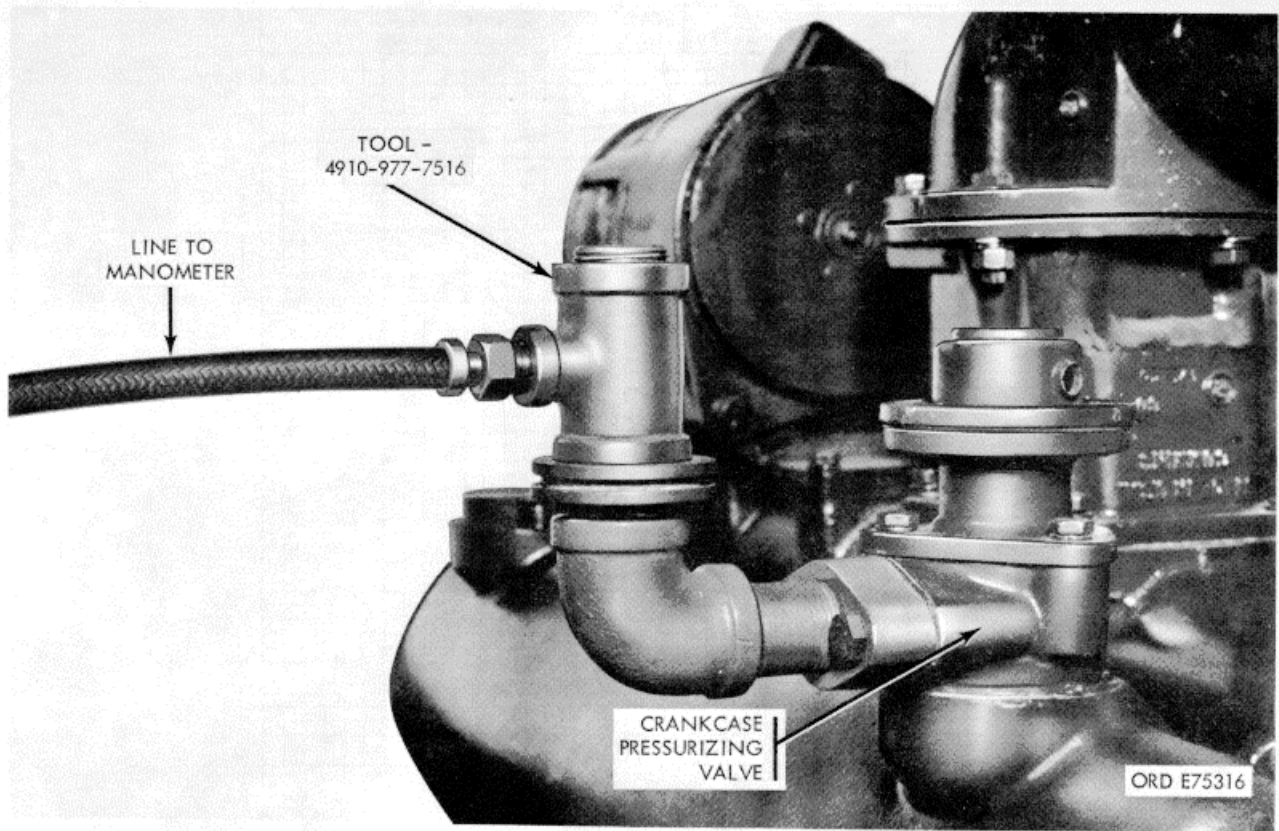

Figure 3-98. Engine blow-by check.
(1) Install right bank rocker housing. Install sealed type oil dipstick.
(2) Install left bank rocker housing. Install sealed type oil dipstick.
(3) Attach a manometer to the hose coupling the checking too (fig 3-98), and fill the tube w water to the "0" mark at the middle of scale.
(4) Manometer readings must be taken frequently during the break-in test to note any blow-by crease. If there is any increase, engine speed must be decreased for a few minutes and then brought back to original setting.
(5) During each 5 minute power check, keep a constant check on the manometer. If the pressure rises, more run-in is required. Maximum pressure limits for engine running, at governed speed a operating at 96 percent to 100 percent of rated horsepower are listed in paragraph b (1), above.
(6) Observe variation in rate of blow-by during initial engine run. If the crankcase pressure, or blow-by is greater at the end of the testing period than maximum values listed, the engine should be operated at 96-100 percent rated load and rpm for minutes. If the blow-by is not increasing, although it may be above 5 inches of water (maximum crankcase pressure), there is